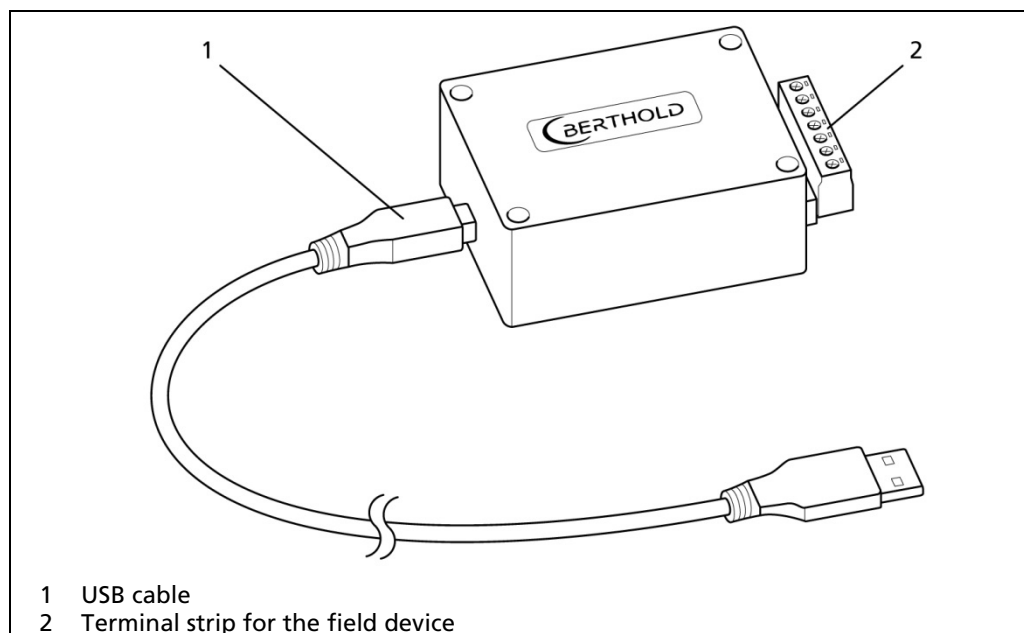

Fig. 18 Detector Service Modem
5. Connect the field device to the terminal strip at the "Detector Service Modem" (Fig. 18, pos. 2).
6. Connect the "Detector Service Modem" via the supplied USB cable (Fig. 18, pos. 1) to a free USB port on your PC.